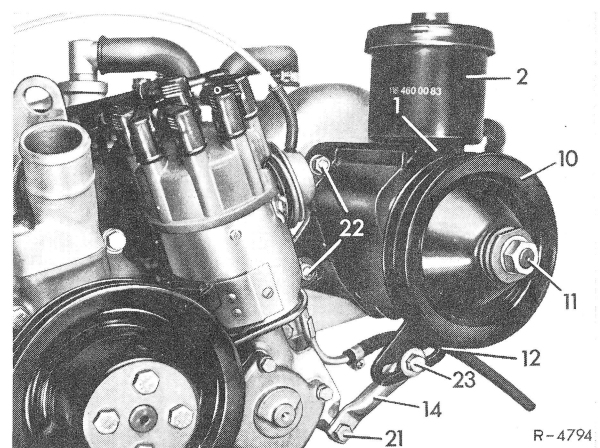

Fig. 2
3 Loosen hex nut (22) on fastening plate and hex bolt (23) on support (14). Push high-pressure oil pump toward engine and remove both V-belts from pulley (10) (Fig. 2).